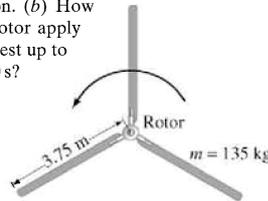

FIGURE 10-55 Problem 47.
32. (I) Estimate the moment of inertia of a bicycle wheel 67 cm in diameter. The rim and tire have a combined mass of 1.1 kg. The mass of the hub can be ignored (why?).
41. (II) A merry-go-round accelerates from rest to 0.68 rad/s in 24 s. Assuming the merry-go-round is a uniform disk of radius 7.0 m and mass 31,000 kg, calculate the net torque required to accelerate it.
47. (II) A helicopter rotor blade can be considered a long thin rod, as shown in Fig. 10-55. (a) If each of the three rotor helicopter blades is 3.75 m long and has a mass of 135 kg, calculate the moment of inertia of the three rotor blades about the axis of rotation. (b) How much torque must the motor apply to bring the blades from rest up to a speed of 5.0 rev/s in 8.0 s?